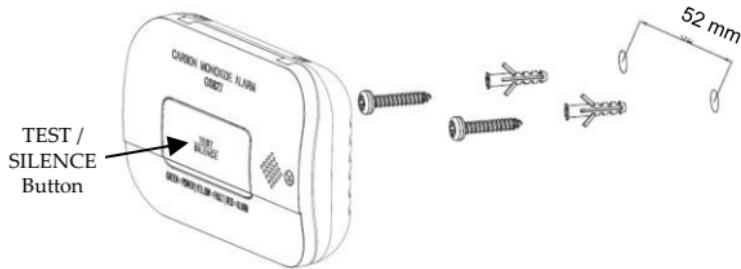

Figure 2 – Mounting
3. Test the unit by pressing the TEST/SILENCE button (*see Figure 2*). Ensure the unit sound is of the alarm pattern.